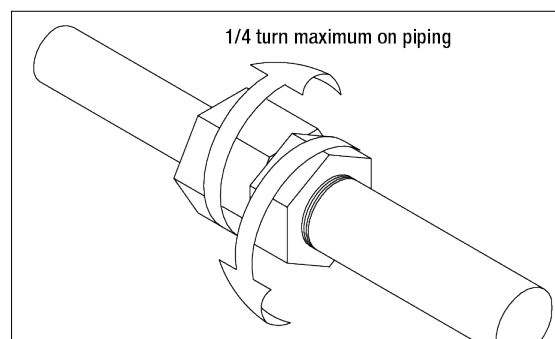

Figure 10. Loosening Locking Nut
4. Loosen the clinch assembly on the column pipe by unscrewing the set screw in the side of locking nut, then backing off the locking nut (see Figure 10).